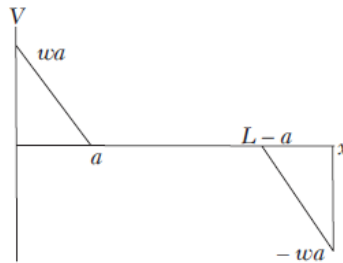

Fig. Q2
- Q2. The shear-force diagram for a beam is shown in the **Fig. Q2**. Assuming no couples act as loads on the beam, determine the forces acting on the beam and draw the bending moment diagram. [8]